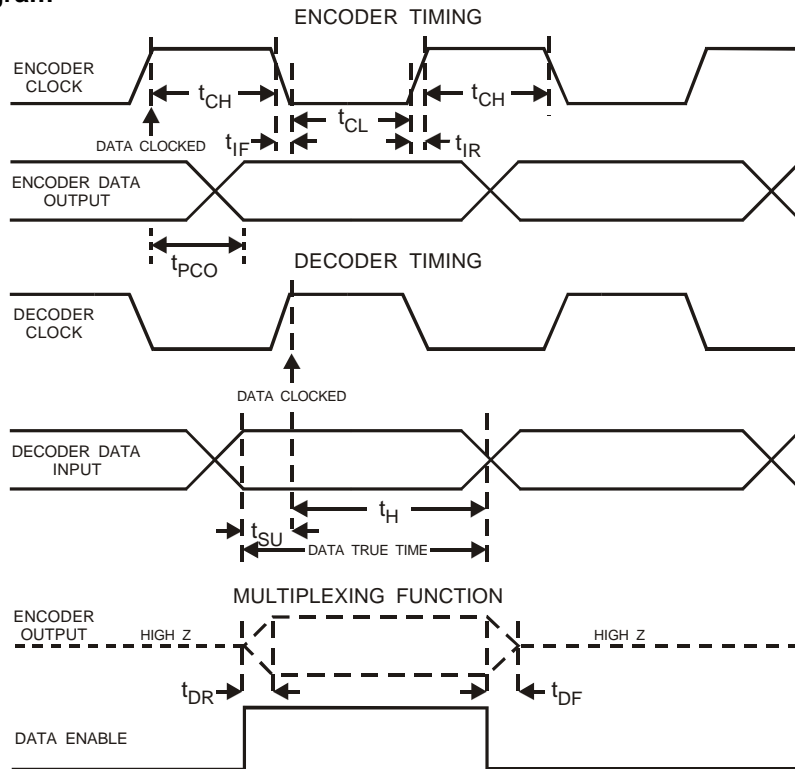

Figure 4 Serial Bus Timing
11. In general, optimum codec performance is achieved when both encoder and decoder Xtal/Clock signals are synchronized. While this is practical in many telecom applications, it may not be so for others such as wireless data links. The CMX639 decoder can generally deliver best performance when its data clock is recovered/derived from the received data stream and applied as an external data clock to the decoder as per the decoder timing depicted in Figure 4. Nonetheless, some Xtal/Clock frequency and data rate combinations are better served by the use of internal clocks. Experimentation with each specific design may provide the best guidance for making this design choice.